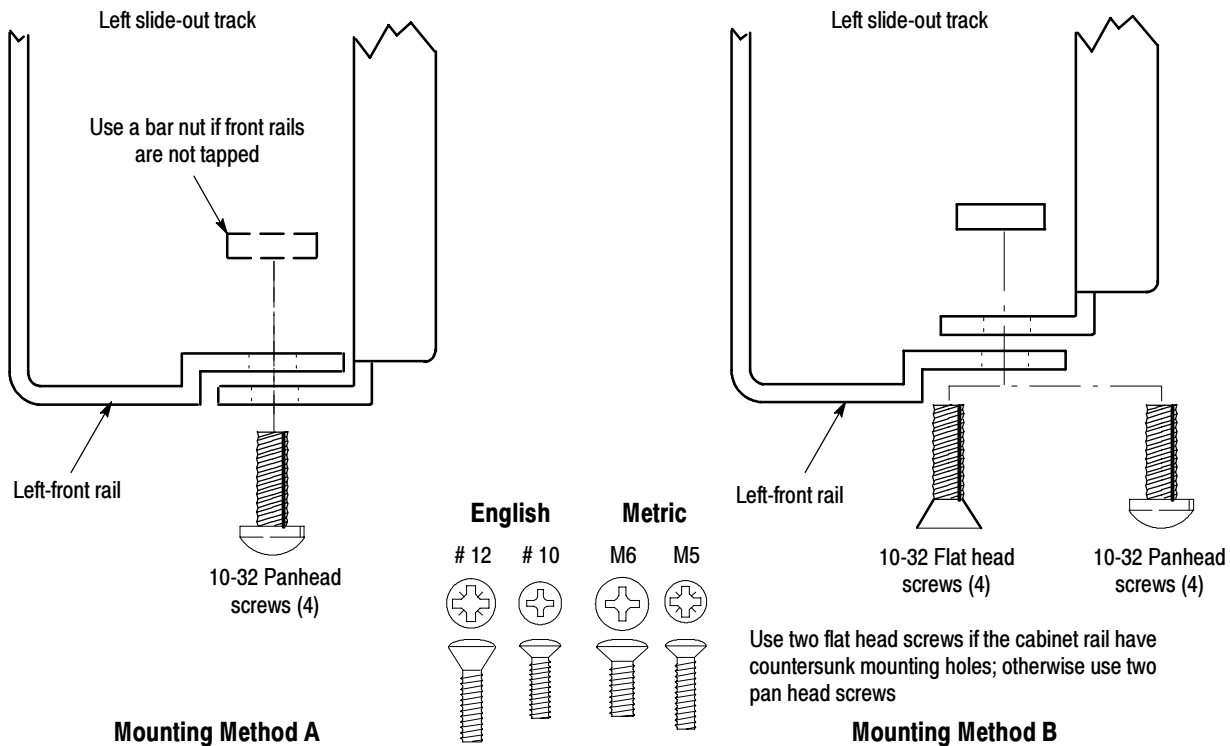

Figure 9: Installation of slide-out track assemblies in rack (top view)
- To mount the slide-out tracks with their front and rear flanges outside of the front and rear rails, use method A, shown in Figure 9, when doing substep c. Add a bar nut to the installation only if the rails have untapped holes.
- To mount with front and rear flanges inside of rails, use method B, shown in Figure 9. This mounting method assumes untapped holes.